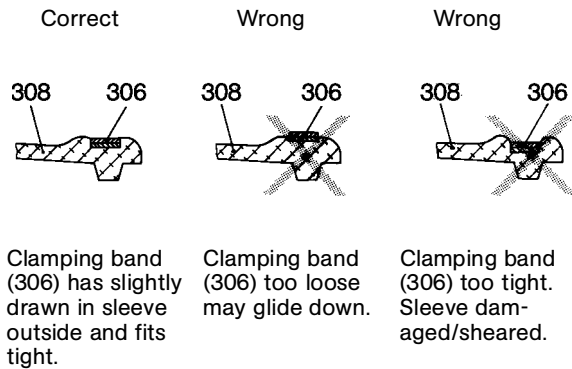

Figure 10: Clamping of clamping bands.
Note: Proper clamping of the clamping bands (306) is shown in Figure 10.